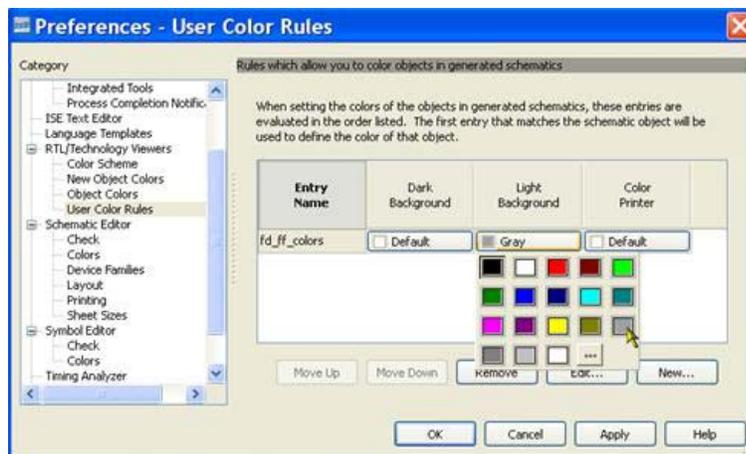

Figure 7-10: Selecting Light Background Gray
- In the Light Background column, select **Gray** as the color (see Figure 7-10) for created `fd_ff_colors`, and then press **OK**.